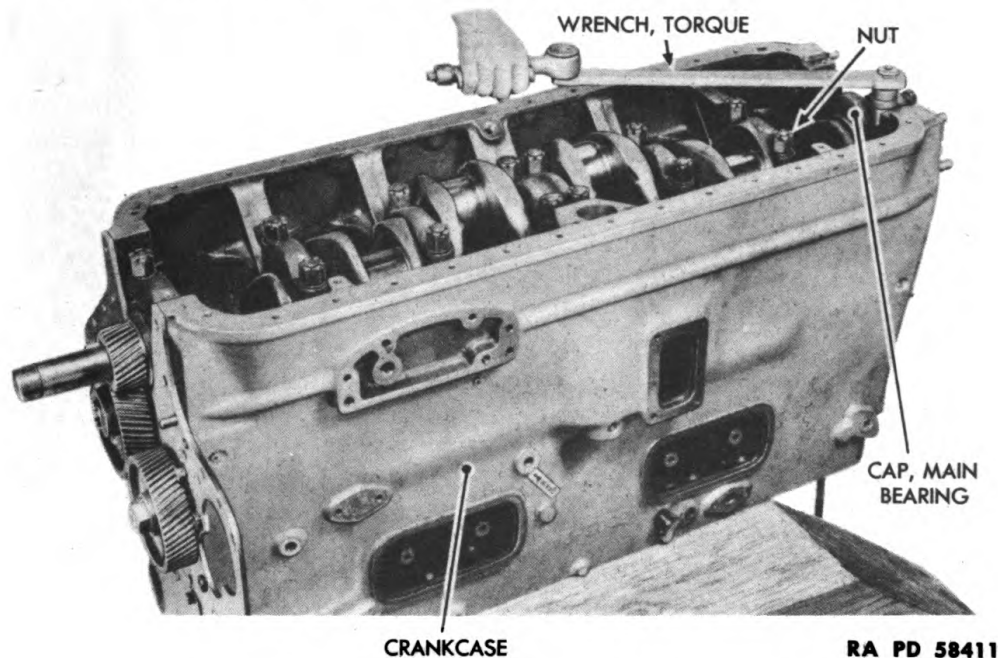

Figure 159—Main Bearing Cap Installation
(5) **INSTALL MAIN BEARING CAPS** (fig. 159).